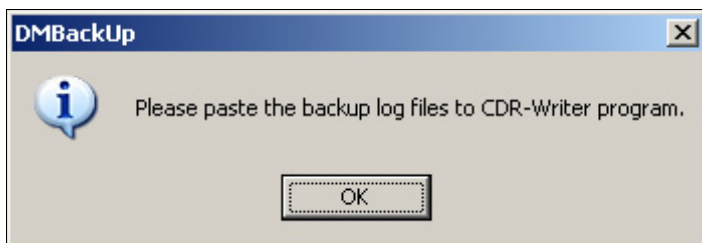
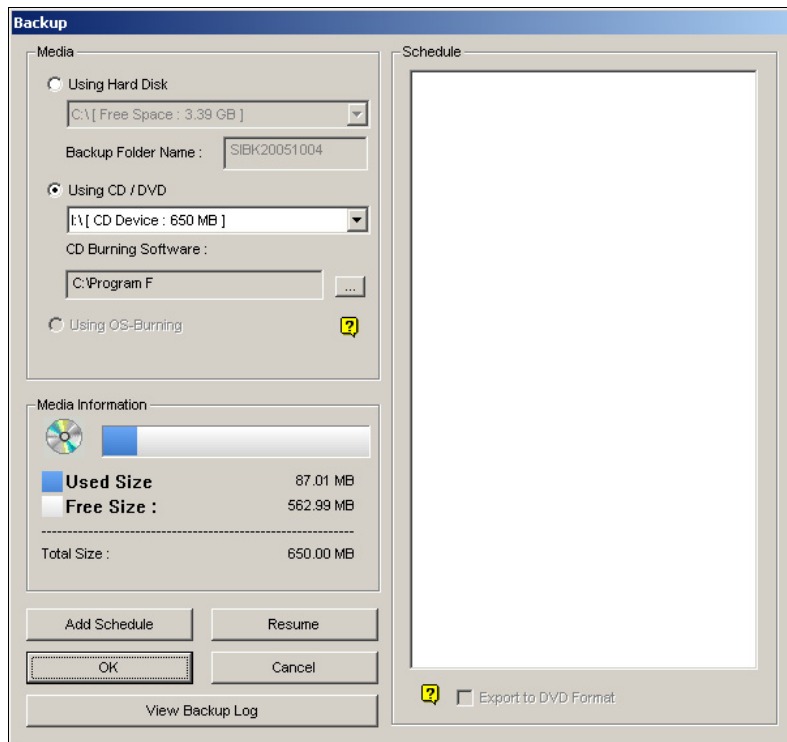

Figure 5-4
Figure 5-8
4. Click **OK**. The Backup dialog box appears (Figure 5-8).
Click the [...] button to select a desired burning software (.exe file). When you click **OK** on the Backup dialog box (Figure 5-8), the system will ask you to paste the backup files to the CDR-Writer program (Figure 5-4), and call up the assigned burning software for you to paste and backup.
2. The **Export to DVD Format** option, at the right bottom of Backup dialog box (Figure 5-8), outputs your files in DVD movie format, meaning that it will play in any DVD player that supports writable DVD disks. To enable this option, files recorded by the GV-Hybrid DVD card need to be selected first (see the Select Camera(s) option), and a DVD±RW disk is required as well.